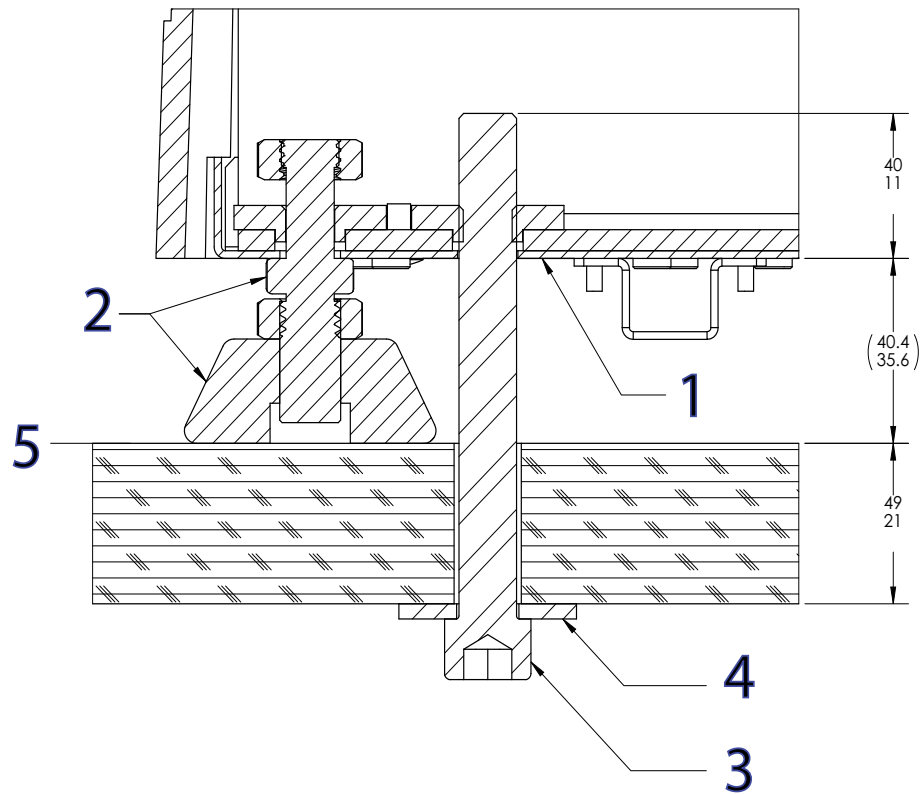

Figure 15. Secure the frame to the table
Legend for Figure 15
3. Install each bolt and oversized washer as shown in Figure 15 on page 66.